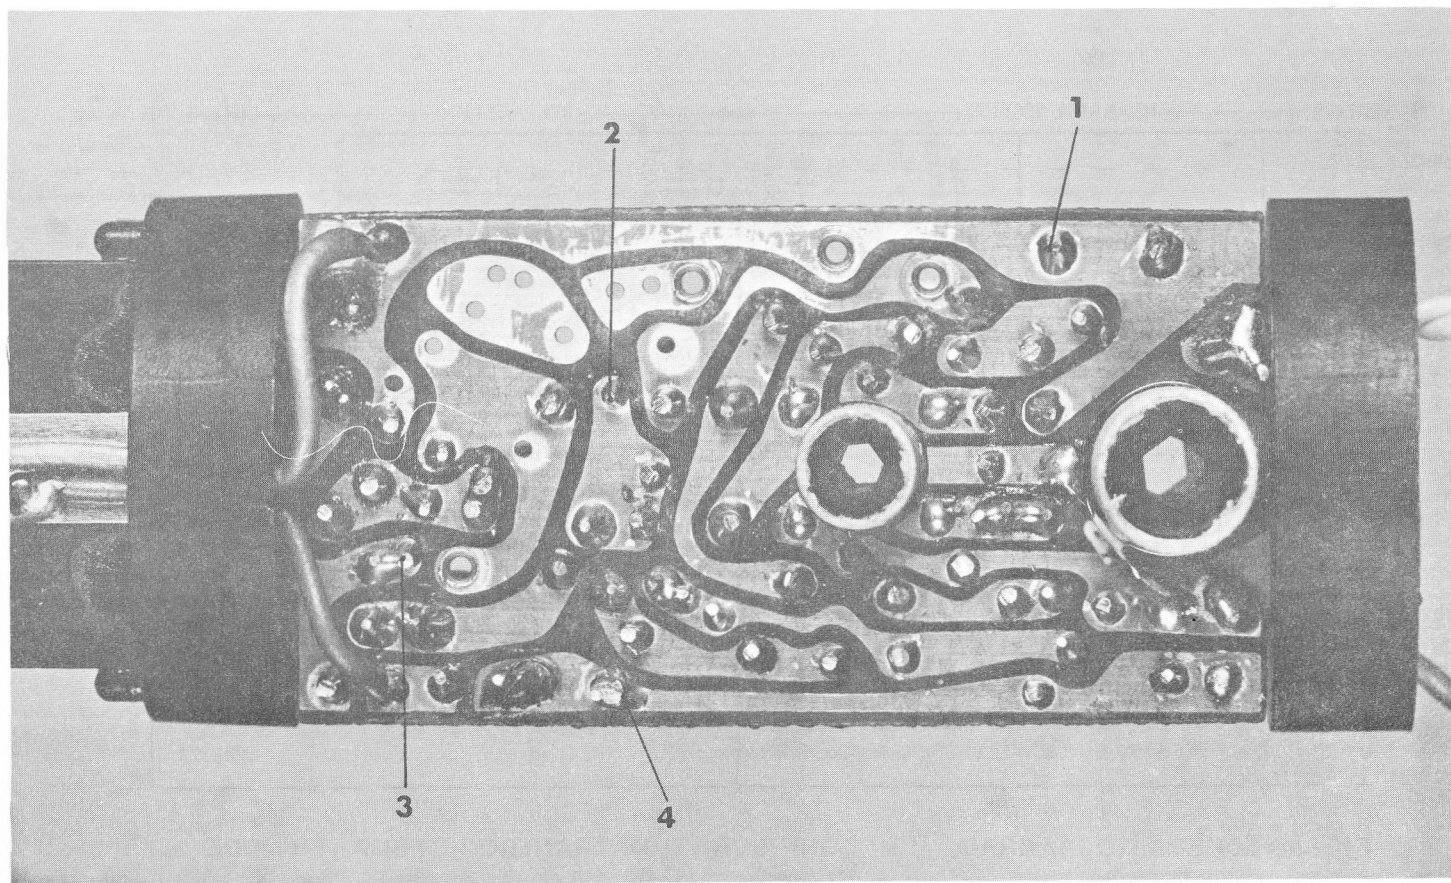

FIG. 3B BOTTOM VIEW, "B" CONFIG. TRANSROC, TEMP TM MODE
- 6B. ( ) Inspect the bottom of the PC board for poor solder joints, solder bridges, etc. It should look like Figure 3B.